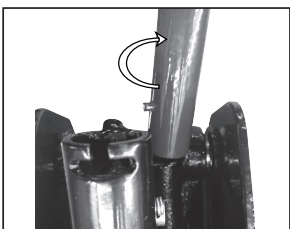

fig 7.
3. Use the handle assembly to twist the release valve clockwise until tight (fig.7). Do not over-tighten.